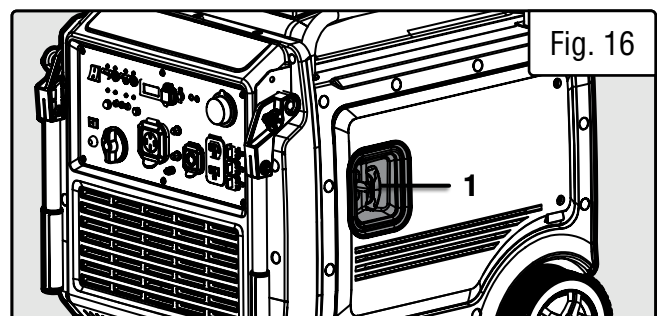

Fig. 16
- 3b. **RECOIL START** - Turn the ENGINE SWITCH to ON and pull the recoil start handle (Fig. 16 - 1) slowly until a slight resistance is felt, then pull quickly to start the engine. Return the cord gently into the recoil starter. Never allow the cord to snap back. If the engine fails to start, repeat this step.
- 4b. **RECOIL START** - Turn the ENGINE SWITCH to ON and pull the recoil start handle (Fig. 16 - 1) slowly until a slight resistance is felt, then pull quickly to start the engine. Return the cord gently into the recoil starter. Never allow the cord to snap back. If the engine fails to start, repeat this step.